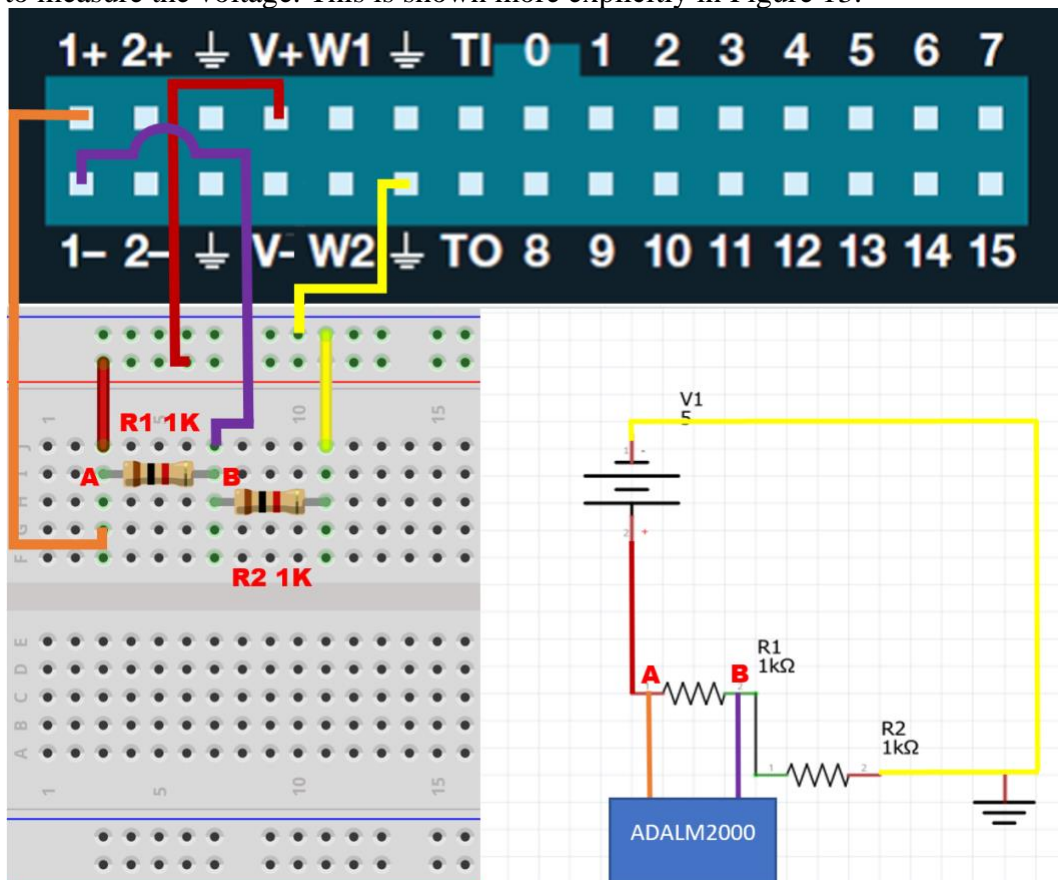

Figure 13. Measuring R1 in a series 2-resistor circuit
Modify your circuit such that the trim-pot is no longer included. From the ADALM2000, the 1+ pin and the 1- pin will be your voltage probes that you will place at different locations of the circuit to measure the voltage. This is shown more explicitly in Figure 13.
In Figure 13, a 5V DC voltage from the ADALM2000 is placed across two equal resistors, R1 and R2 in series. The channel 1 probes (port 1+,1-) from ADALM2000 are connected parallel to resistor R1 (ADALM2000 and R1 share the same nodes A and B) to measure the voltage drop across R1. The voltage across R1 should be approximately half of the voltage supplied.
1. Connect to the circuit to +5V from channel 1 of the DC power supply, the top red wire in Figure 13.
2. Connect the ground of the circuit to negative terminal from channel 1 of the DC power supply, the black wire in Figure 13.
4. In Scopy, apply the same settings to the Power Supply (+5V) and Voltmeter tabs as for Exercise 2. Again, do not enable the power supply output until you are certain the wiring is correct based on Figure 13.